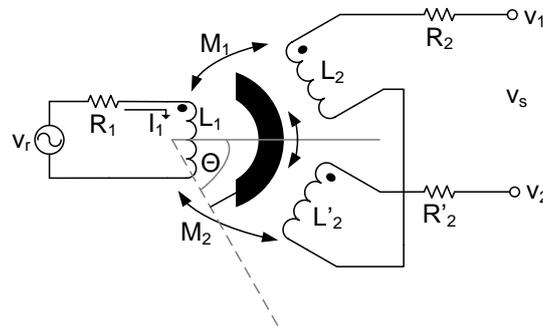
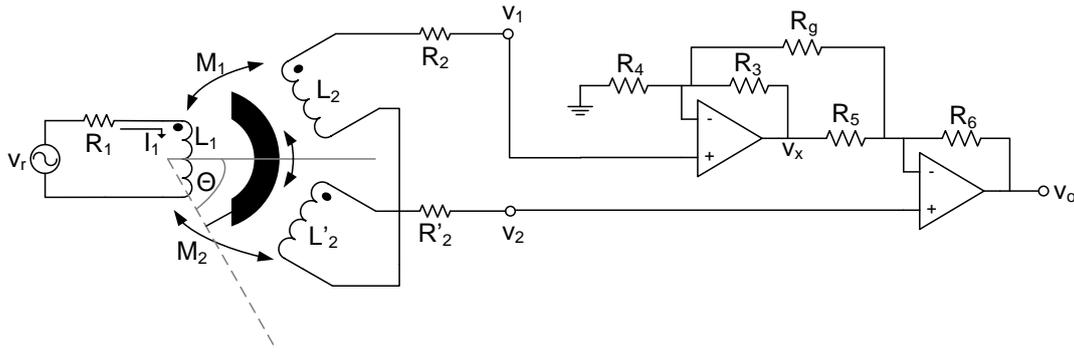
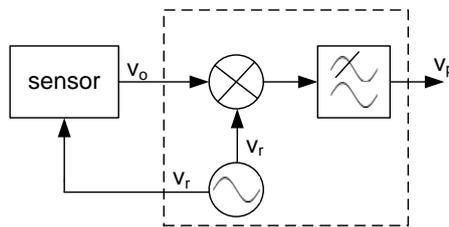

Figure 6: Measuring an angle using an RVDT.
Figure 7: RVDT with instrumentation amplifier.
Figure 8: Sensor with phase sensitive detector.
ESP assists a driver to keep a vehicle on the road during dangerous driving conditions. For this purpose, the ESP system uses a large number of sensors in the vehicle. One of these sensors measures the angle of the steering-wheel and steering-column and the speed with which the driver changes this angle (note that one sensor measures both quantities). The RVDT (rotary variable differential transducer) from Figure 6 can be used to measure the angle (and its rate of change). When the driver moves the steer from the central position ($\Theta = 0^\circ$) to the left or to the right, then this will lead to a change in the output voltage of the sensor. This electrical signal can then be sent to the ESP computer. The primary winding of this RVDT is connected to a voltage supply that produces a sinusoidal voltage with an amplitude of 5V with a frequency of 10 Hz. The RVDT has a sensitivity S of $100 \mu\text{V}/(^\circ/\text{V})$. The output voltage of the RVDT is equal to:
- (5p) (d) The signal coming from the RVDT is too weak to be directly send to the ESP computer. The signal should first be amplified. For this purpose, the sensor from Figure 6 is connected to an instrumentation amplifier. The resulting circuit is shown in Figure 7. The instrumentation amplifier uses two operational amplifiers. You may assume that these op-amps show an ideal behaviour. Show that the output voltage v_o of the instrumentation amplifier in Figure 7 is equal to:
- (5p) (e) Assume that the resistors R_3 , R_4 , and R_6 in the instrumentation amplifier from Figure 7 have a resistance of 10Ω . What resistance should the resistors R_g have such that the amplitude of the output voltage v_o is equal to 0 V when $\Theta = 0^\circ$ and 5 V (peak) when $\Theta = 20^\circ$?
- (5p) (f) The rotation sensor from Figure 7 is connected to a phase sensitive detector. This detector consists of an analogue multiplier connected to a low-pass filter. Using this processing circuit, it is possible to recover the magnitude and direction of the rotation from the output signal of the sensor. The block diagram of a phase sensitive detector is shown in Figure 8. The angle of the steering-wheel is given as a function $\Theta(t)$. Assume further that the reference voltage v_r is equal to: